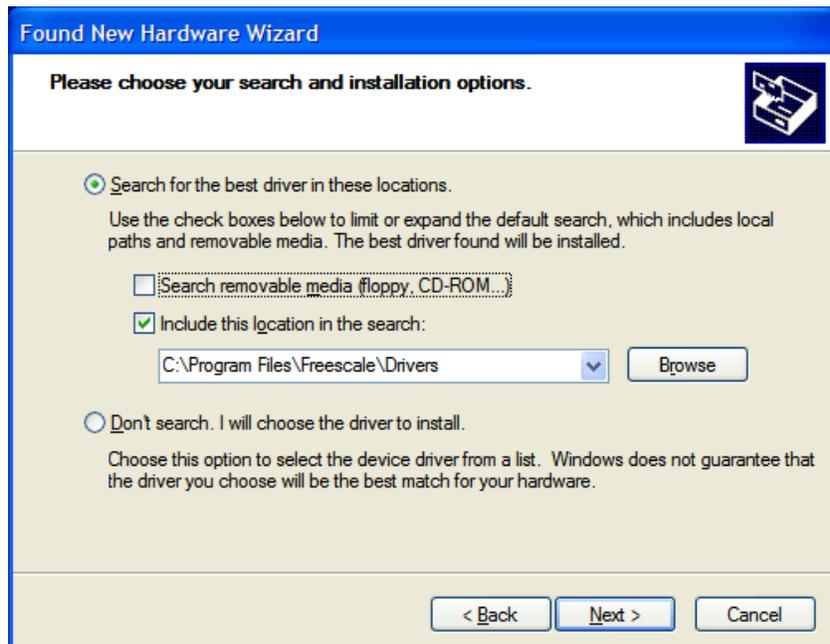

Figure 2-4. Found New Hardware Window (Search and Installation Options)
- As shown in Figure 2-4, specify the actual location of the driver files. (When installing the Freescale BeeKit Wireless Connectivity Toolkit, by default, the drivers are installed in the following directory: